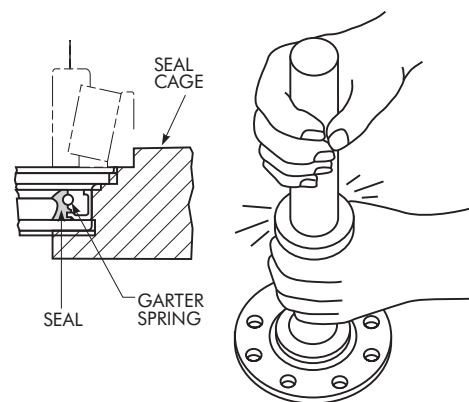

Figure 3
E. Figure 3: Position seal squarely in seal cage so that the spring faces the bearing when the cage is mounted on the drive. Place a flat ended cylindrical tool against the seal and press or lightly tap the tool (not the seal) until the seal is seated.